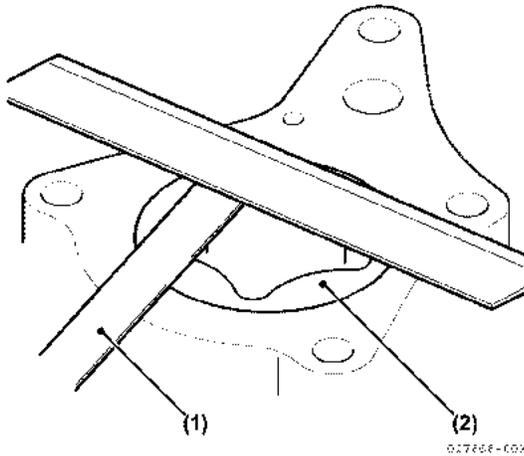

Figure 8-14
- Place a right-angle gauge against the pump body and insert a feeler gauge (**Figure 8-14**).